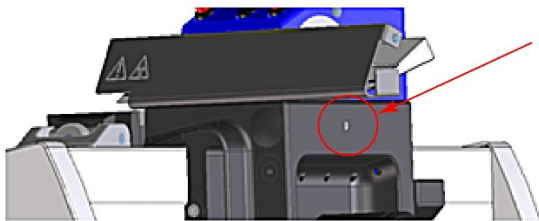

Fig 4-3-3
- Fix the ballast with the laterally set-screw Fig 4-3-3.